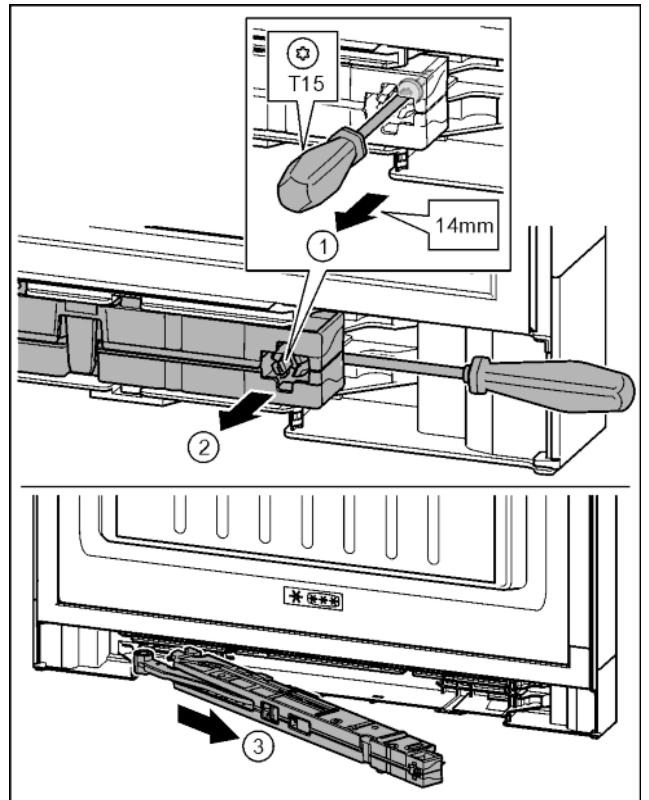

Fig. 19
- ▶ Undo the screw on the soft stop unit about 14 mm with a T15 screwdriver. Fig. 19 (1)
- ▶ Insert the screwdriver on the handle side behind the soft-stop mechanism. Turn the unit forwards. Fig. 19 (2)
- ▶ Remove the unit. Fig. 19 (3)